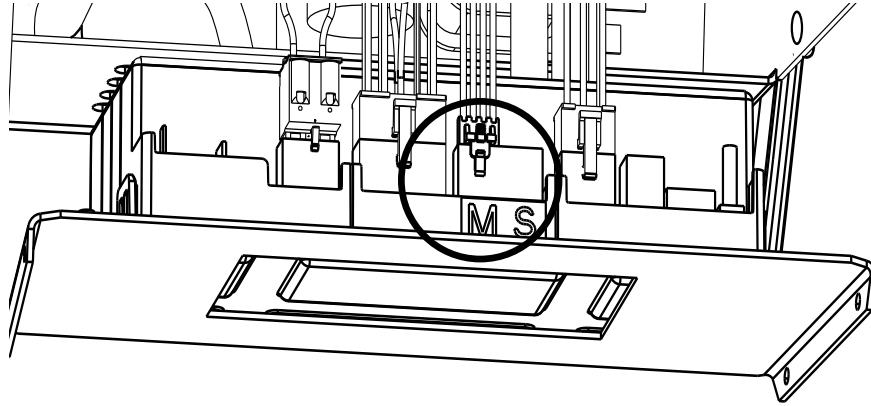

Figure 7.7.
- Disconnect the Regulator motor wire harness lead from module **Terminal "M"**, fig. 7.7
- Connect the motor leads to **Terminal "M"** on the IFC. See Figs. 7.7 - 7.8.